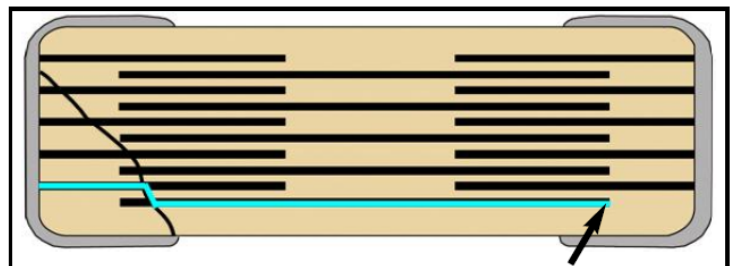

Figure 7 – Flex crack does not complete circuit - no short circuit failure.
- For **lower** capacitance values, KEMET offers the Floating Electrode (FE-CAP) design. This is also known in the industry as a Serial Cap design, as the Floating Electrode part contains two parts in series, within a singular capacitor body. In Automotive (Clamp 30) designs, sometimes 2 distinct capacitors will be used in series on the PCB – the FE-CAP gives a designer this “two parts in series” - within a singular capacitor. This solution works by eliminating the short-circuit path between electrodes of opposite polarity (See Figure 7).